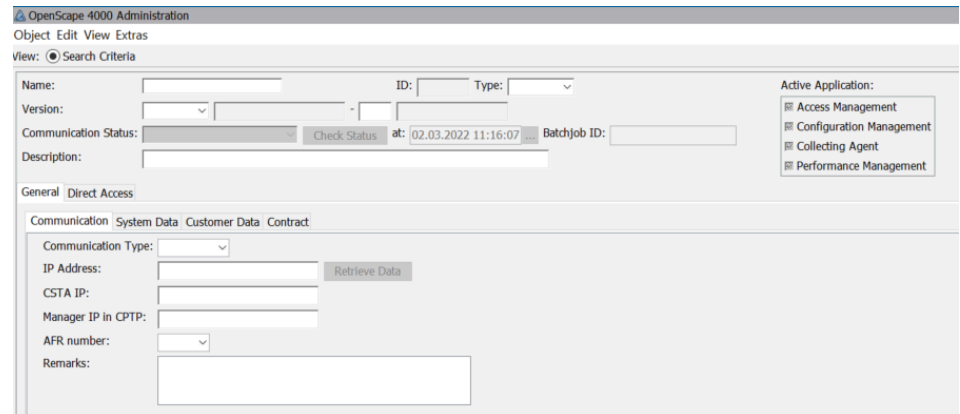

Figure 60: OpenScape 4000 Manager Administration
- 4) In the Domain field (see Figure 60), enter a unique name for the new domain. This domain name is used to group together systems that are accessed by the same tie line code (closed numbering plan).